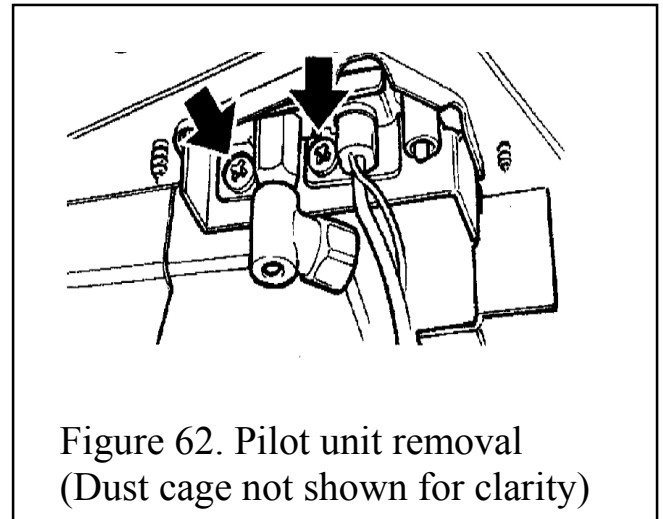

Figure 62. Pilot unit removal
6. Remove the first screw securing the dust cage to the pilot unit & burner. Carefully remove the dust cage and place aside. See figure 62.
7. Remove the second screw securing the pilot unit to the burner. Remove the pilot unit and place it aside. See figure 62.